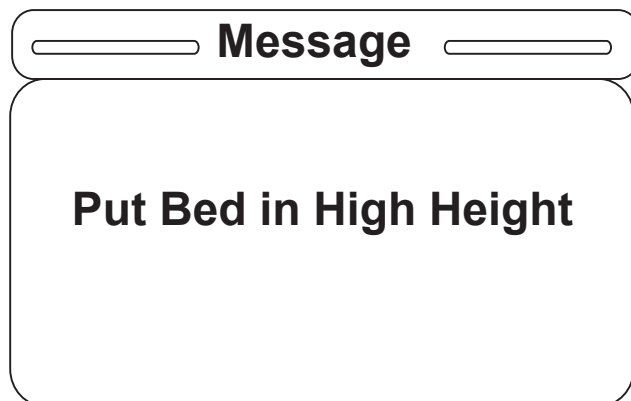

Figure S-33
31. The Burn-in Height routine will display different messages depending on if the user chooses to activate the Zoom/Batt. option. **If the Zoom or Battery Backup option is activated**, the message in Figure S-33 will be shown on the screen. If the Zoom/Batt option was deactivated, then the message would display: “Put Bed in Low Height.” Drive the bed to its high or low height (depending on the message displayed) and hold the Bed Motion Lock. The screen will display the message “Hold to Set Height Limits.” Once the lock button is held for two seconds, the message “Release Button” will flash.